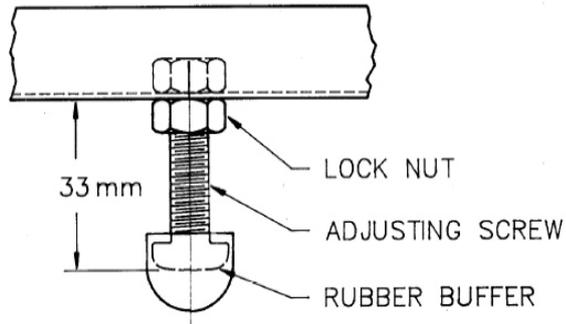

Figure 210 Bonnet Buffer Screw
- g. Adjust the bonnet buffer screws to the correct dimensions (Figure 210) and refit the buffer rubbers.